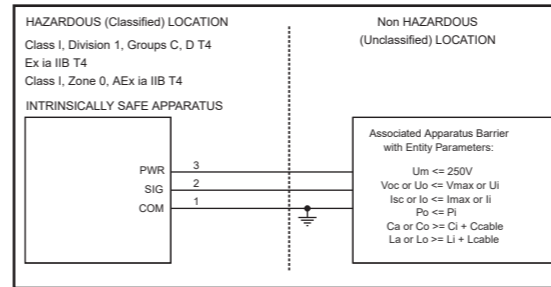

Figure 3
- For installation in accordance with Figure 3, one dual-channel or two single-channel barriers may be used, where in either case, both channels have been certified for use together with combined entity parameters.
- Intrinsically safe when connected per Figure 3
- La sécurité intrinsèque est préservée lorsqu'il est connecté selon la Figure 3